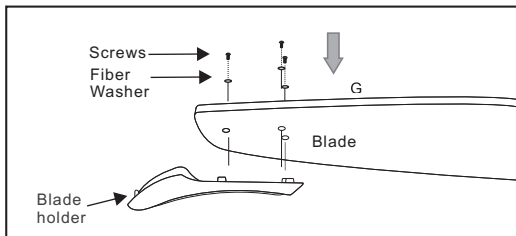

Figure 15
1. Attach the fan blades to the blade holders by using three screws and fiber washers as shown in Figure 15. Start a screw into the blade holder, do not tighten. Repeat for the 2 remaining screws and washers.